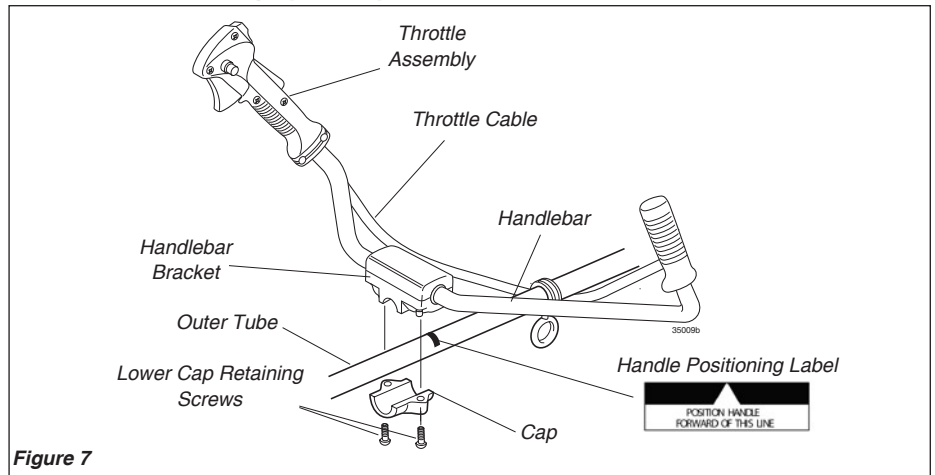

Figure 7
2. Position the handlebar on the outer tube forward of the handle positioning label as shown in Figure 7. Reassemble the lower cap to the handlebar bracket in the reverse order of disassembly. See Figure 7.